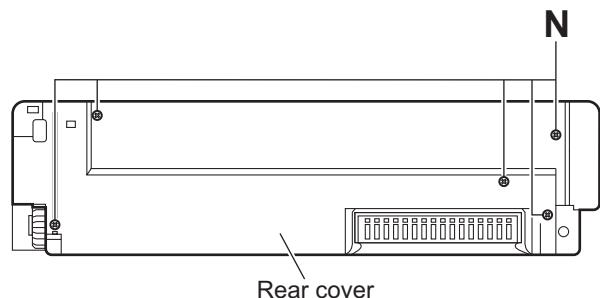

Fig.10
(See Figs.10 to 12)
- (1) Remove the five screws **N** attaching the front panel assembly. (See Fig.10)